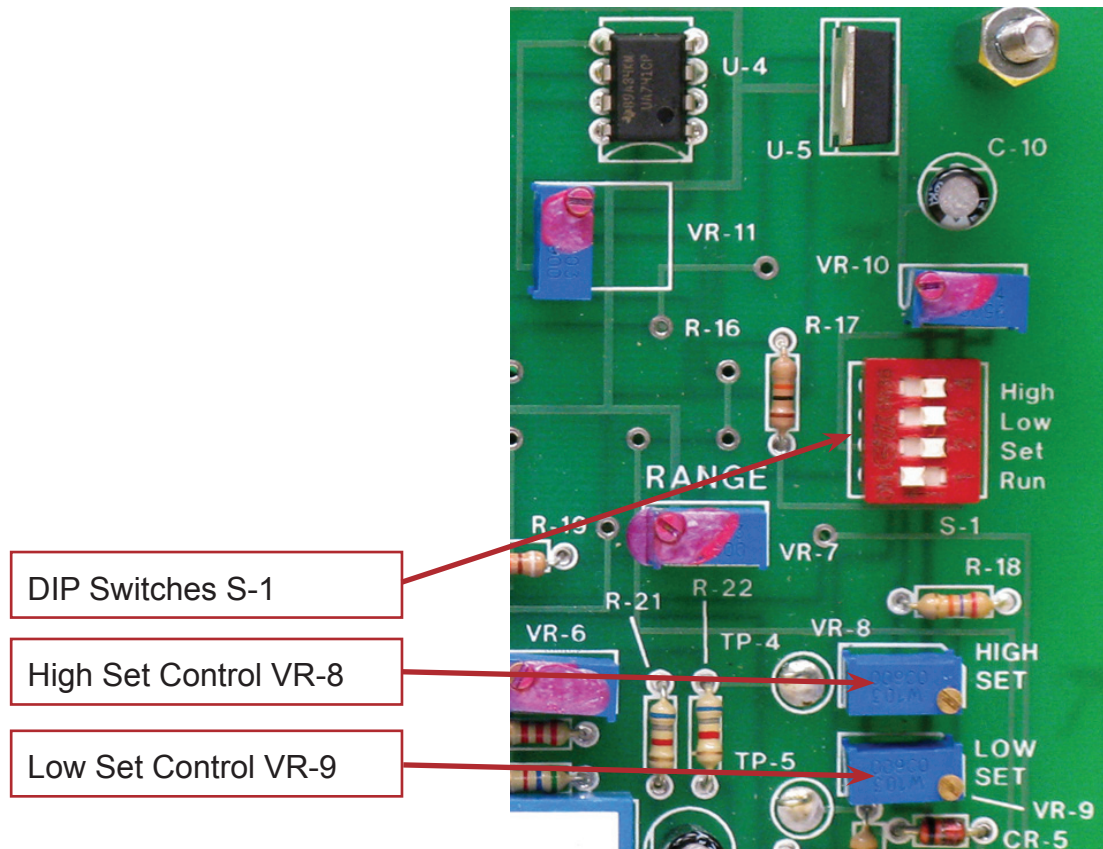

Figure 30
1. Locate the block of four DIP switches (S-1; see **Figure 30**, page 27), and set the switches to these settings.
2. Locate the block of four DIP switches (S-1; see **Figure 30**, page 27), and set the switches to these settings.
3. Locate the block of four DIP switches (S-1; **Figure 30**, page 27), and set the switches to these settings.